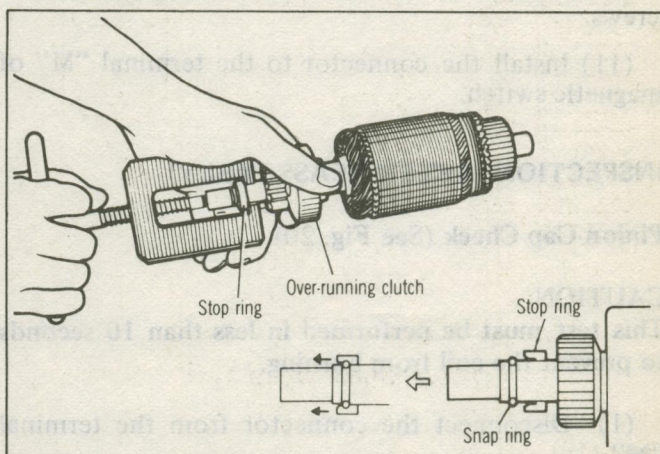

Fig. 18 Installing Stopper
(1) Install the spring retainer and spring to the armature shaft.
(2) Install the overrunning clutch onto the armature shaft.
(3) Install the stopper from the front end of the armature shaft, fit the snap ring, and push the stopper all the way over the snap ring. (Fig. 18)